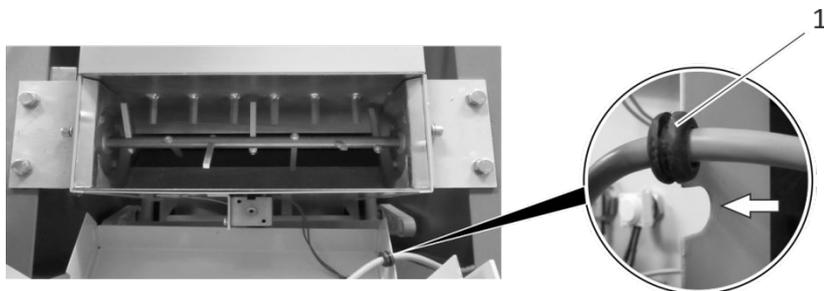

Figure 19: Rubber bush at the filling container
- ⇒ Insert the rubber bush on the casing through the recess; refer to **figure 19**.